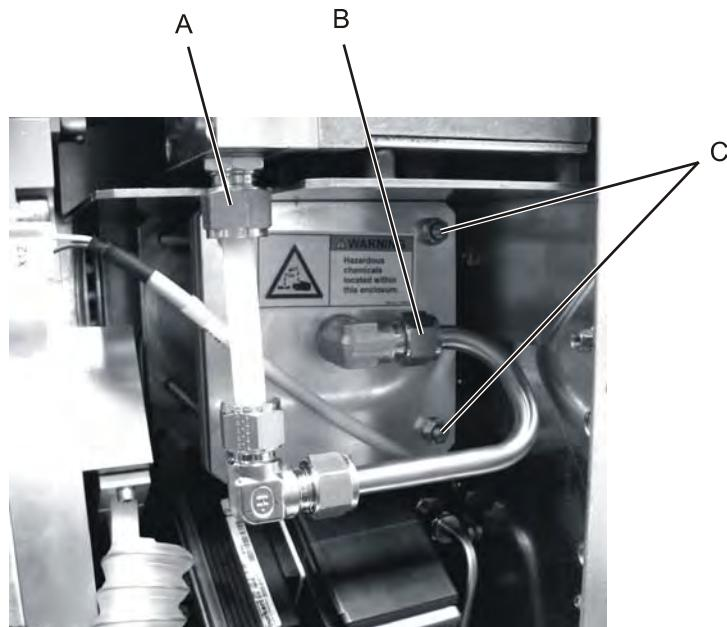

Figure 110: Gaining access to the halogen filter
4. Use the two 19 mm open wrenches to loosen the exhaust line from the connection on the vacuum pump (see Figure 110, A). Use one wrench to hold the nut directly below the vacuum pump while turning the nut on the exhaust line with the other wrench.
5. Use a 19 mm open wrench to loosen the exhaust line from the connection on the halogen filter housing (see Figure 110, B).
7. Use the 10 mm socket driver to remove the four nuts and washers from the top of the halogen filter housing (see Figure 110, C).